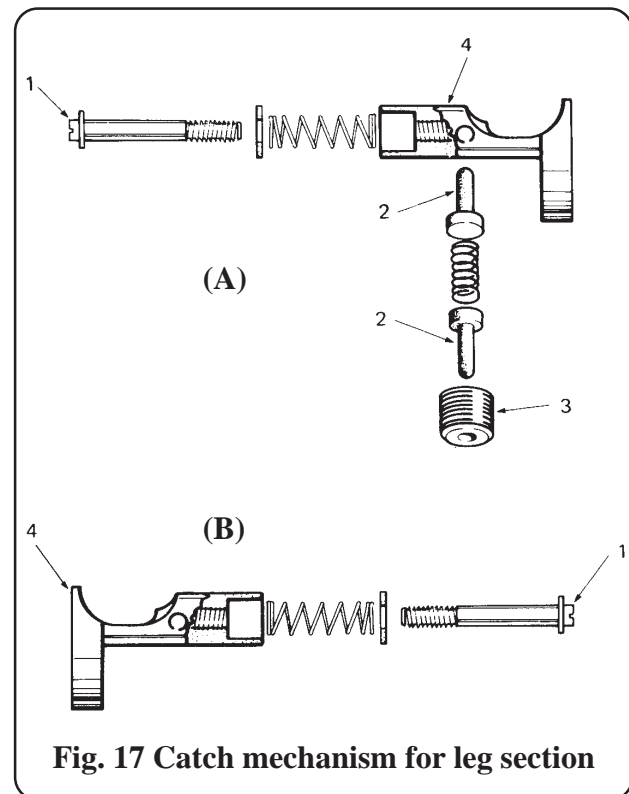

Fig. 17 Catch mechanism for leg section
4.48 Should it be necessary to gain access to the push-button catches for cleaning, lubrication or replacement, first remove the appropriate section (head or leg section) and apply a screwdriver to the slotted end of the threaded spindle of the catch (1, Fig 17). The catch spindles at the lower trunk end of the table are readily visible (at the end of the section underneath the radiographic top) but to gain access to those at the upper trunk end it is necessary to detach the radiographic top of the upper trunk section by removing the socket head screws.
4.49 The *right* hand push-button 'A' catch operates in conjunction with a spring loaded plunger (2, Fig. 17) which, in turn, operates to
4.51 Ensure that the spring loaded plunger (2, Fig. 17) referred to in section 4.49 moves freely in its socket. If the plunger has become damaged or distorted such as to impair free movement, it should be replaced. To remove plunger, unscrew threaded bush (3, Fig. 17).
4.52 To remove a faulty latch, unscrew threaded spindle (1, Fig.17) completely and lift away push button/latch assembly (4, Fig.17). If the latch has scored the attachment pins of head/leg section the complete push-button/latch should be replaced. Repair any scoring on attachment pins with a fine file and/or crocus cloth before placing in service again. It is advised that setting tool number T1612 Part No. 759579 is used when finally adjusting push buttons as follows: